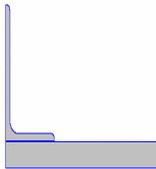

Fig. 63 *Setting the first angle*
- press the **Add** button (Fig. 63)